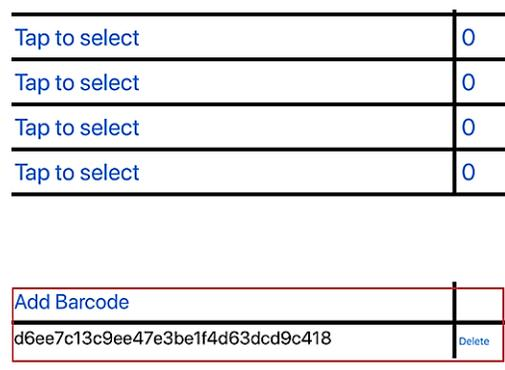

Figure C4. Barcode Collected
3. The camera scans very quickly. The barcode, once captured, will show as associated with that trap after the book is returned. (Figure C4)